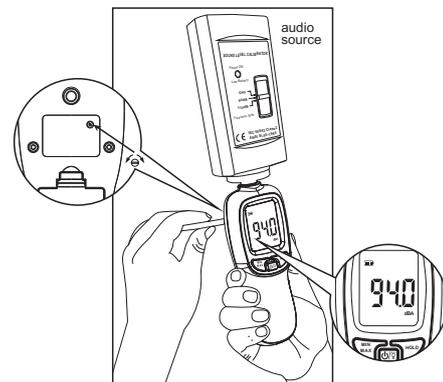

Figure 1 (Diagram of audio source calibration)
- 2.Turn on the power switch of standard sound source(94 dB@1KHz), use straight screwdriver to adjust potentiometer located in the opening hole within the machine stick, and make LCD display 94.0(referring to Figure 1).